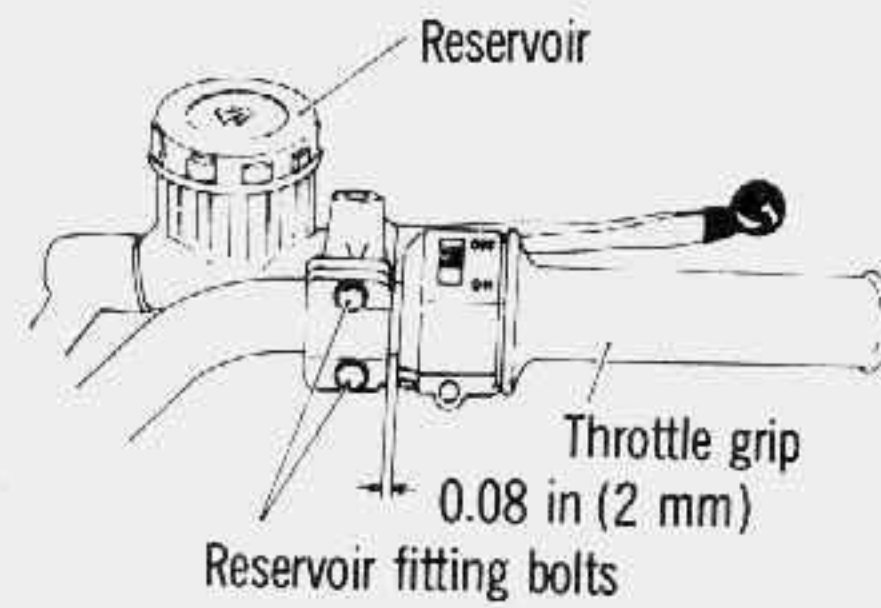

Fig. 8-2-19.
- c) Mount the master cylinder to the handlebar so that a gap between it and the switch box is about 2 mm (0.08 in.) and the reservoir becomes horizontal when the motorcycle is held on the center stand and steering is kept in a straight-on direction. Refer to Fig. 8-2-19.